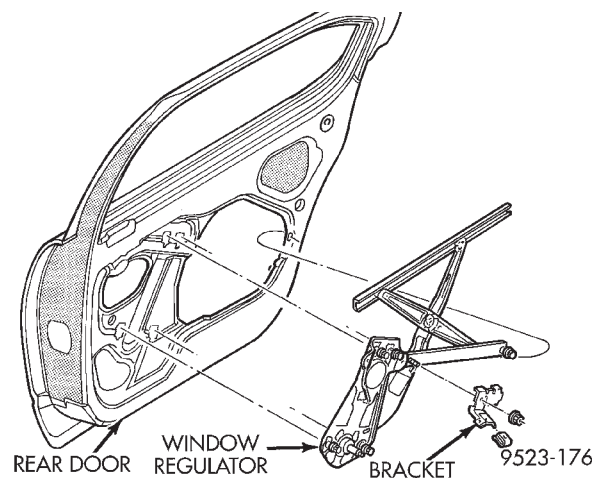

Fig. 36 Rear Window Door GlassRegulator
- (1) Remove door trim panel.
- (2) Separate glass from regulator roller channel.
- (3) Disengage power window motor wire connector, if equipped.
- (4) Loosen screw holding regulator scissor channel to door panel (Fig. 36).
- (5) Separate screw and bolt heads from keyhole slots in door panel.
- (6) Loosen bolts holding regulator to door panel.
- (7) Separate regulator from door panel.
- (8) Slide regulator rearward and rotate forward end of roller channel through access hole in door panel.